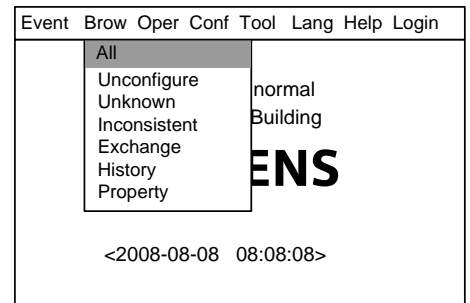
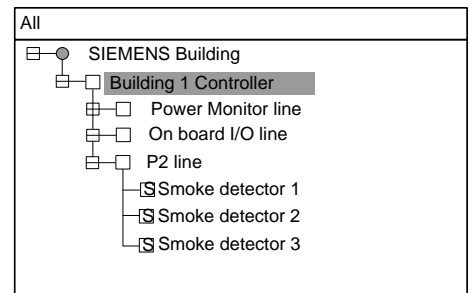
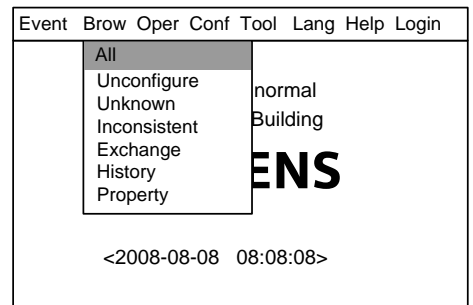

Fig.17-2
Fig.17-3
Fig.18-2
2. Press "→" to select "Browse" submenu (Fig. 17-2). Select "All" and then press "OK". Now the tree diagram will be displayed in the window (Fig.17-3).
2. Press "→" to select "Brow" submenu (Fig. 18-2). Select "All" and then press "OK". Now the tree diagram will be displayed in the window (Fig.17-3).